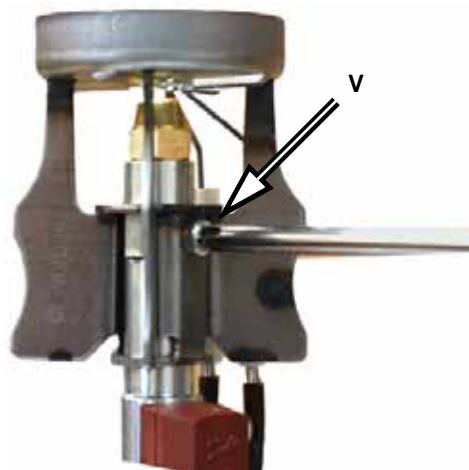

Fig. 15
- Unscrew the V screw that fastens the combustion head and remove the head from the nozzle-holder (Fig. 15 - Fig. 16).
- Reassemble the combustion head by respecting the position A measured previously, making sure to fasten the V screw (Fig. 15).